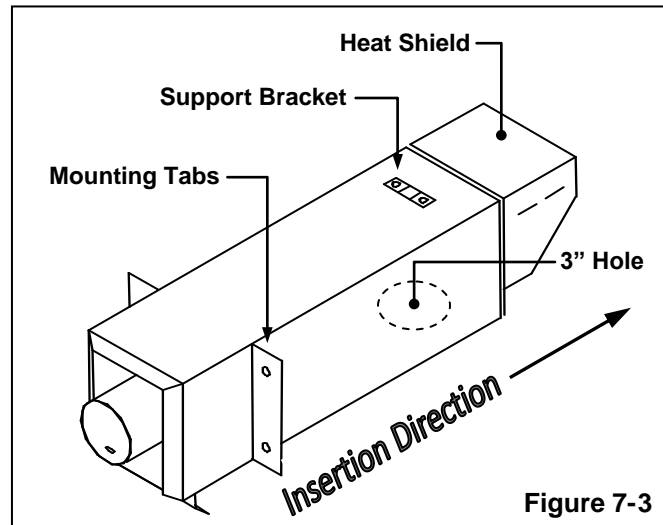

Figure 7-3
- Orientation** - Insert the vent terminal through the rectangular hole into the building so that the 3" diameter hole for the air intake is facing downward. See Figure 7-3.